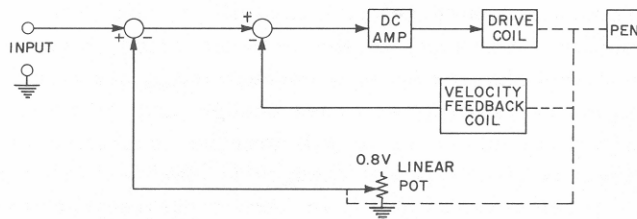

Figure 4.2. Block diagram of servo loop for dc recording.
4.7 DC RECORDING. Use of the linear potentiometer converts the Type 1521-B into a dc recorder. Figure 4.2 is a block diagram of the recorder servo loop for dc recording. The ac amplifier is bypassed and the input is compared with a dc voltage tapped off a linear potentiometer. The voltage on this potentiometer limits the full-scale sensitivity to 0.8 volt. The input impedance is limited to 1 kilohm owing to the base current of the input transistors. This current changes with temperature, but the change contributes negligible error with a 1000-ohm input impedance. The impedance can be increased if the effects of the current are included in the zero adjustment of the recorder. The input impedance can also be lowered, reducing sensitivity and drift. The low impedance may be more useful for recording current.